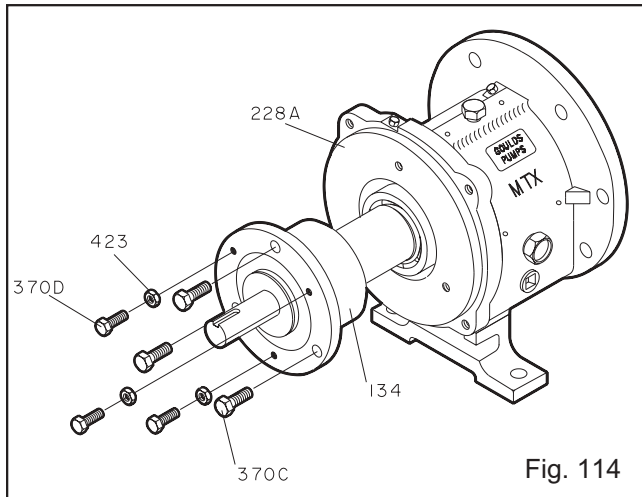

Fig. 114
13. Coat outside of bearing housing (134) with oil (Fig. 114).
16. Install clamping bolts (370C) into bearing housing (134). Hand tighten.
17. Install jacking bolts (370D) with locking nuts (423) into housing (134). Hand tighten.